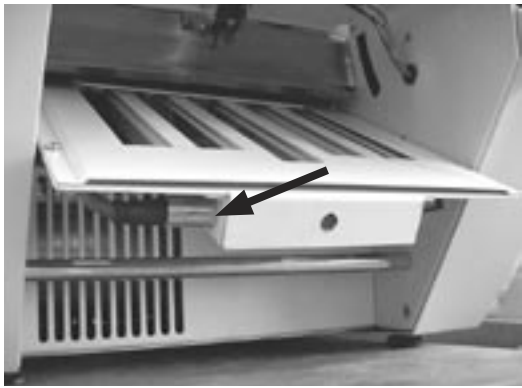

Figure 2a
5. Install the lower fold table and plug the cord (figure 2a) into the fold plate receptacle.